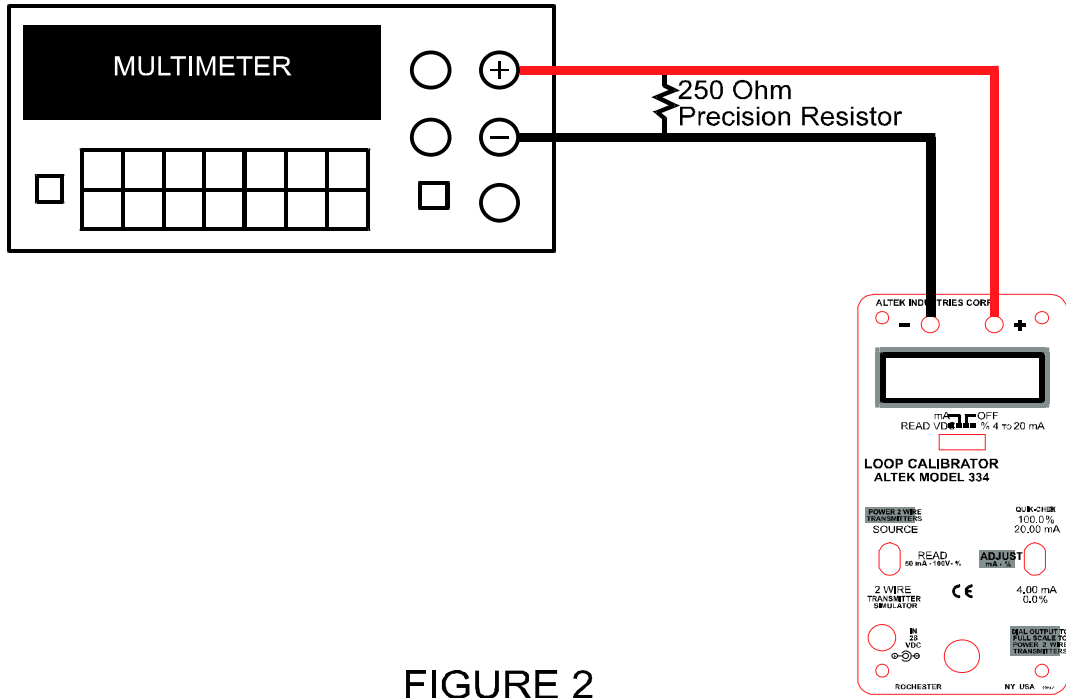

FIGURE 2
1. Connect the UUT to the DMM and 250 $\Omega$  standard as shown in Figure 2.
1. Connect the UUT to the DMM and 250Ω standard as shown in Figure 2.